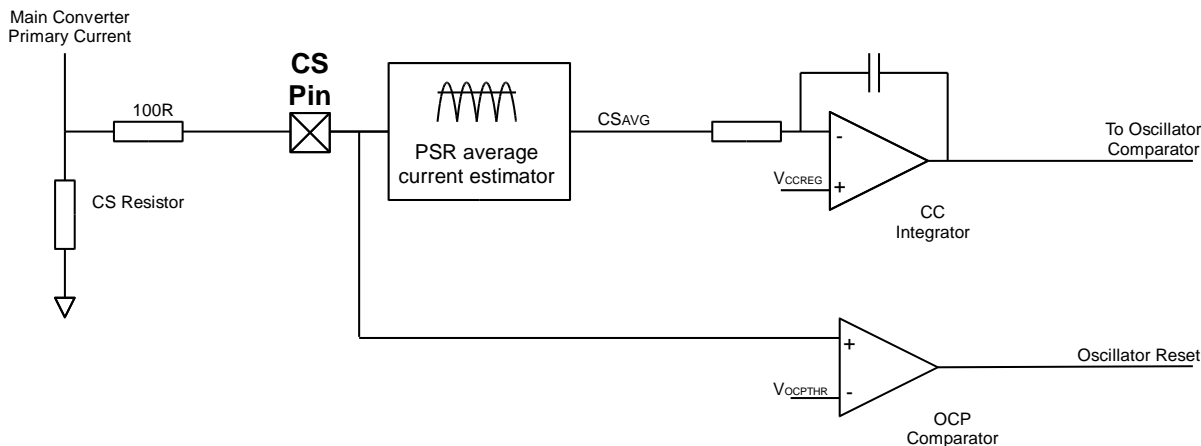

Figure 7: RED2401 Current protection and control circuits
Figure 7 shows the two current control methods used in the converter:
Shown in figure 7 the signal from the CS pin is divided into two different paths. The bottom path provides peak instantaneous over-current protection (OCP) while the PSR Average Current estimation block provides the current regulation (CC) information. The voltage on the CS pin is an AC signal biased around GND. Inside the PSR block this signal is processed to provide a voltage proportional to the average converter output current.
The CC regulation circuit is shown in Figure 7. CC operation is defined by an internally compensated control loop. This provides a system response time of approximately 300us in a typical application. The average current regulation point, V_{CCREG} is pre-set to 150mV, referred to the CS pin.